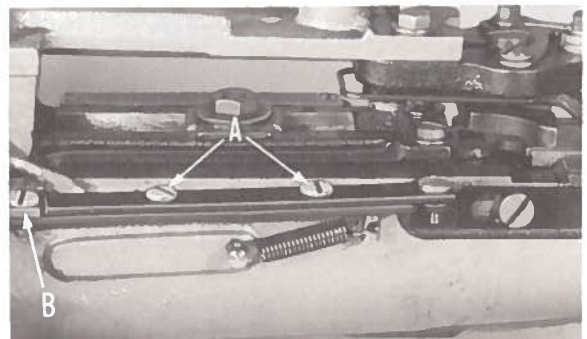

Fig. 17
To position knife, loosen screws (A, Fig. 17), and move bar (B) in or out.